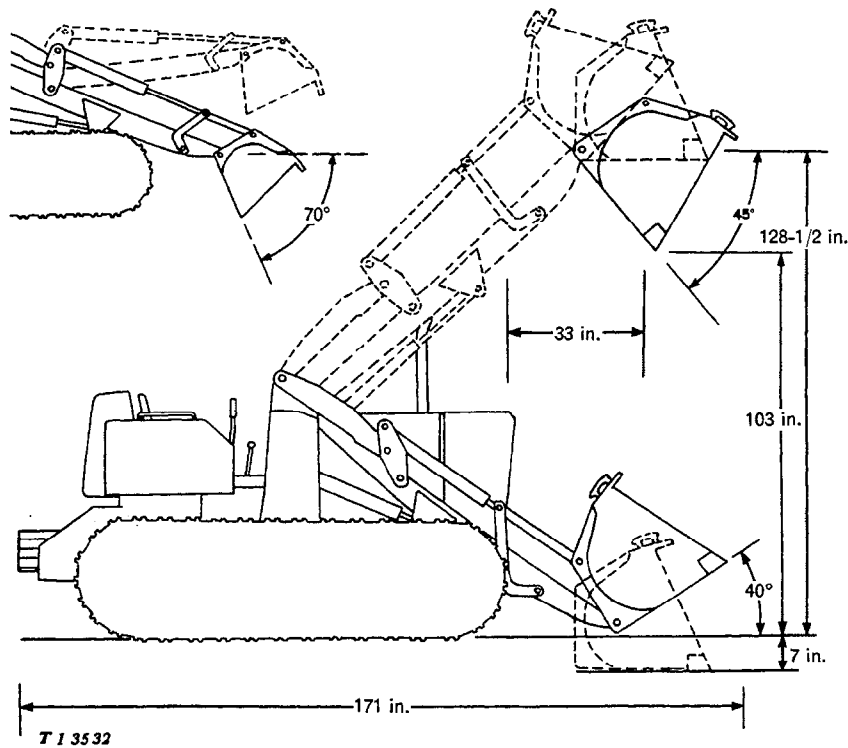

Fig. 10-10-2—Loader Dimensions
**LOADER DIMENSIONS (Fig. 10-10-2)**